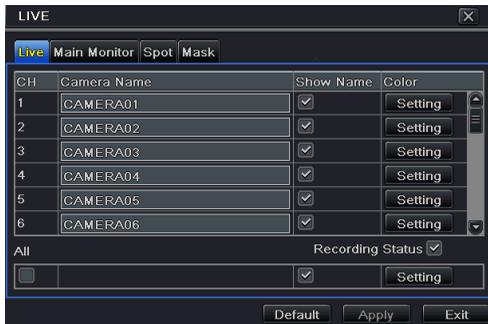

Fig 4-6 Live Configuration→Live
Step 1: Enter into Menu→Setup→Live. Refer to Fig 4-6: